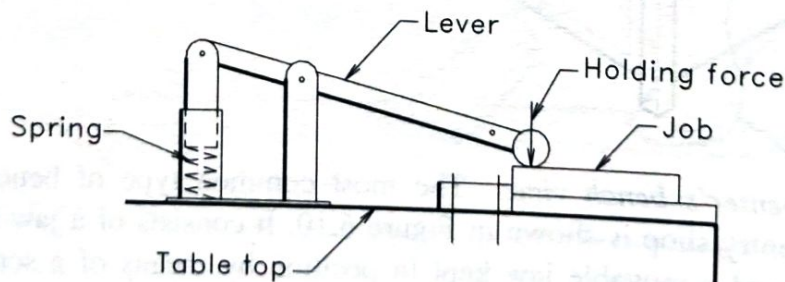

FIGURE 6.12
4. **Bench hold fast:** The bench hold fast shown in Figure 6.12 is made up of steel and is used to hold the work piece on the table, while doing cutting or similar operations.